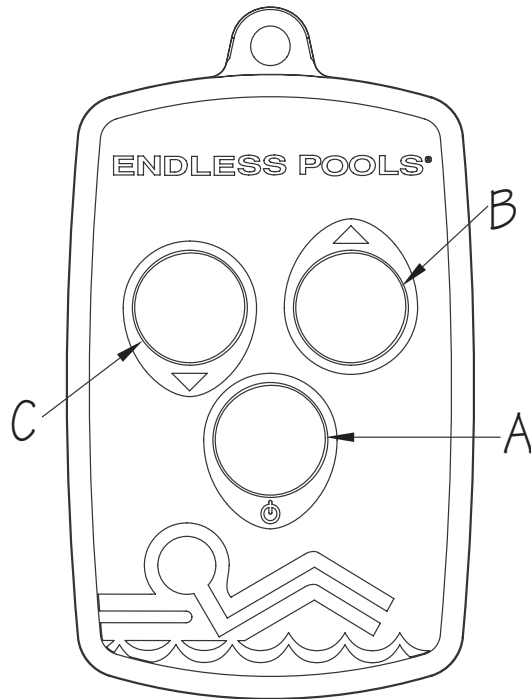

Fig. 32
The Wireless Transmitter is used to operate the Fastlane Pro. To test the Current Unit, turn on the Hydraulic Power Unit by pressing and holding the On/Off Button (A). Press and hold the Faster Button (B) to increase the speed of the swim current. Press and hold the Slower Button (C) to decrease the speed of the swim current. Press and hold the On/Off Button to turn the unit off (Fig. 32).